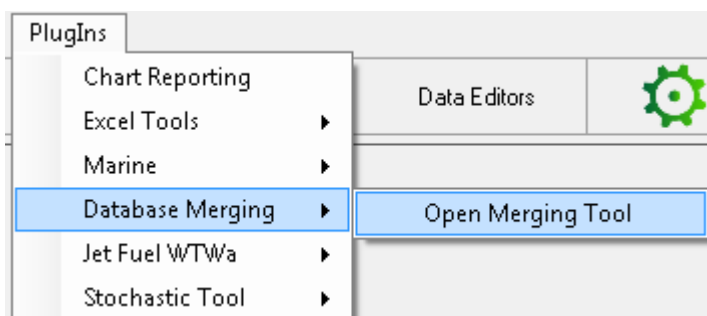

Figure 116: Select a GREET data file to Merging From
Step 1. Selecting the "Database Merging" then "Open Merging Tool" from the main menu. See Figure: 116